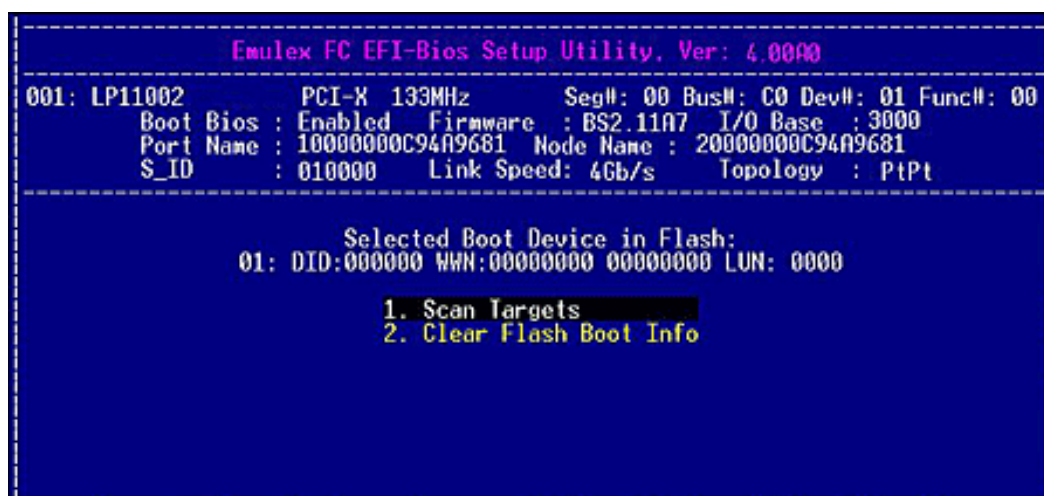

Figure 6-21 Boot Device Configuration Options Menu
2. Select a device row and press **<Enter>**. The screen shown in Figure 6-21 displays the selected device row.